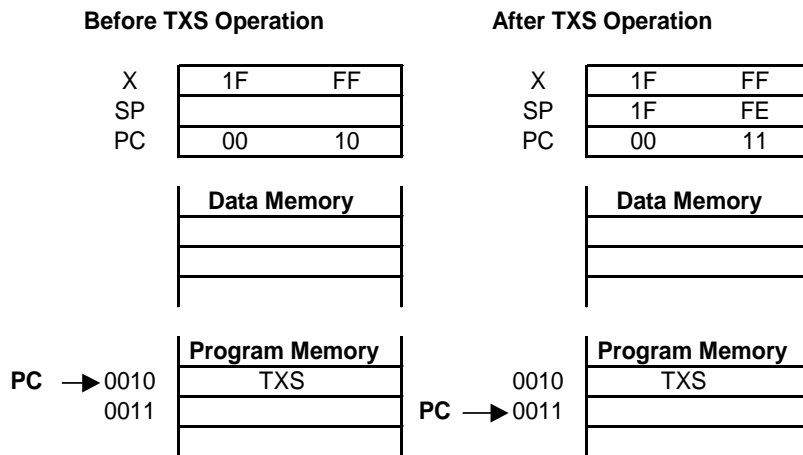

Figure 6.7 - Move From Index Register to Stack Pointer (TXS) instruction
**TXS** instruction moves the contents of the index register minus 1 to the stack pointer. In Figure 6.7, contents of the index register is 1FFFH. After **TXS** is executed, stack pointer contains 1FFEH.